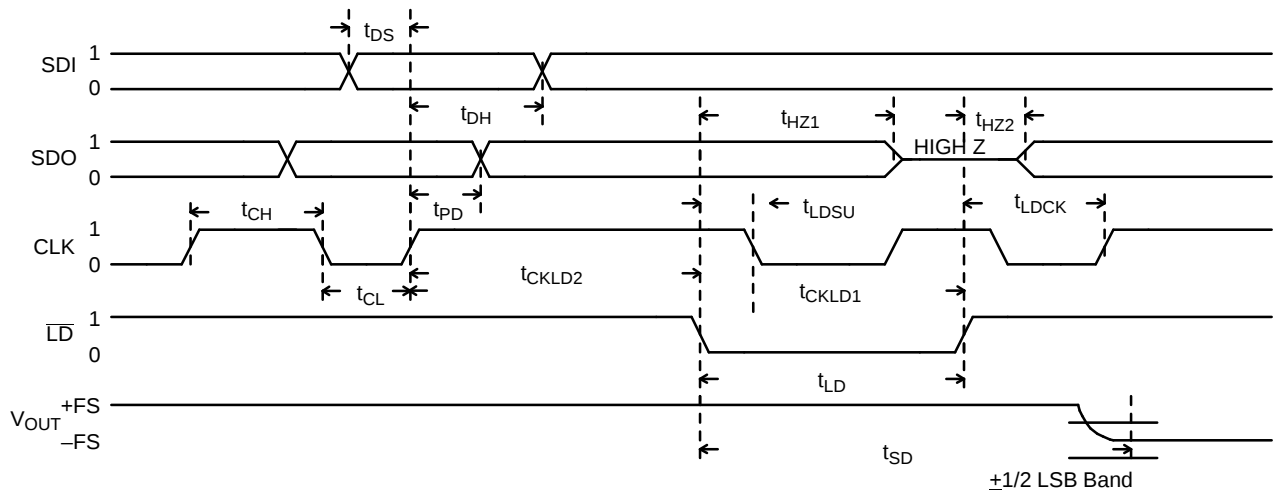

Figure 2. Serial Data Input Timing ($\overline{RST} = "1"$)
- ⁴ See Figures 2 and 3. All digital input signals are specified with $t_R = t_F = 10$ ns 10% to 90% and timed from a 50% voltage level.